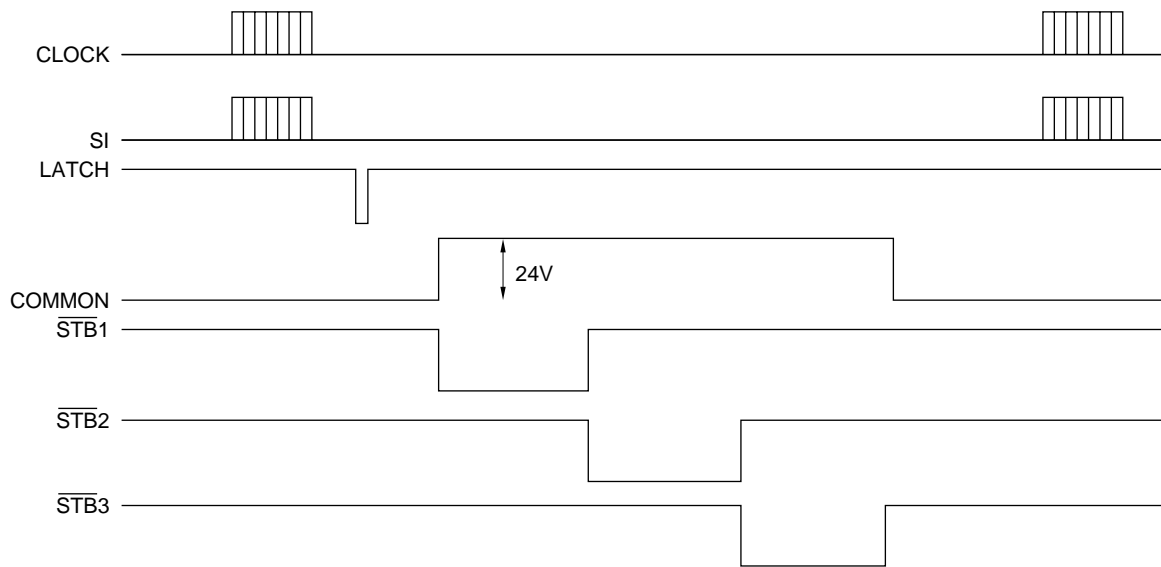

Fig. 2-7 Timing Chart
Strobe signals are output in one of five patterns, depending on the number of dot lines that are simultaneously ON. The following table shows each of the patterns. Figure 2-7 shows the timing for Pattern (5).